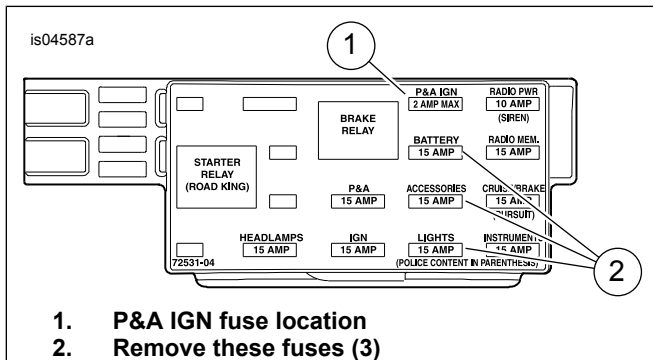

Figure 14. P&A IGN Fuse Cavity (2004-2007 Touring Models)
- ALL models:** See Figure 14. Locate the fuse cavity marked "P&A IGN", "2A MAX" (1). There is a bus bar feeding one side of this circuit, but no mating wire or fuse will be present. Remove the three fuses (2) currently installed in this row, noting their location.